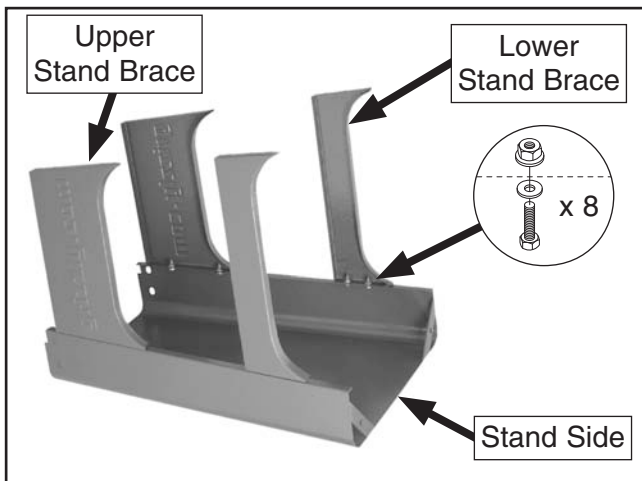

Figure 8. Upper and lower stand braces attached to the stand side.
1. Lay one stand side flat on a protective surface, then attach the upper and lower stand braces, as shown in **Figure 8**, with (8) M6-1 x 16 hex bolts, (8) 6mm flat washers, and (8) M6-1 flange nuts.